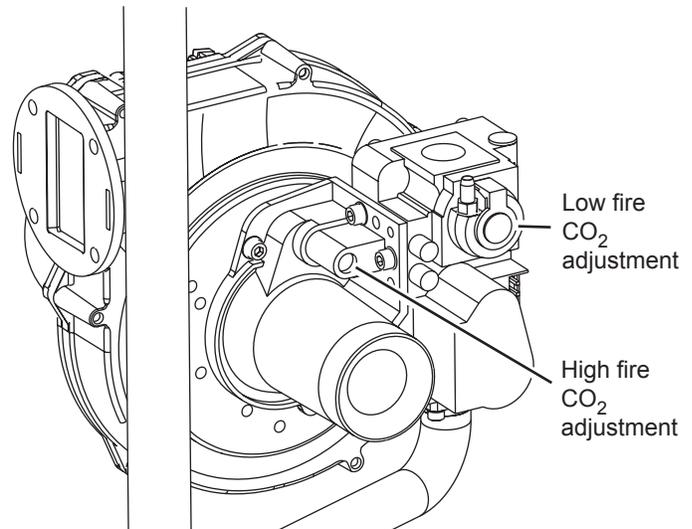

Fig. C2-1 - High- and low-fire adjustments on gas valve - NT 85 through NT 285
The CO₂ readings should be between the values shown in Table C2-1. If the CO₂ is not within the range shown, adjustments may be made. To adjust the high fire CO₂, locate the high fire adjuster screw as shown in Fig. C2-1. Slowly make adjustments in 1/16 of a revolution increments until the CO₂ is within the range identified. For the high fire adjustment, turning the screw counter-clockwise (CCW) opens the adjustment and makes the mixture richer.
The CO₂ readings should be between the values shown in Table C2-1. If the CO₂ is not within the range shown, adjustments may be made. To adjust the low fire CO₂, locate the low fire adjuster screw as shown in Fig. C2-1. Slowly make adjustments in 1/16 of a revolution increments until the CO₂ is within the range identified. For the low fire adjustment, turning the screw clockwise (CW) opens the adjustment and makes the mixture richer.